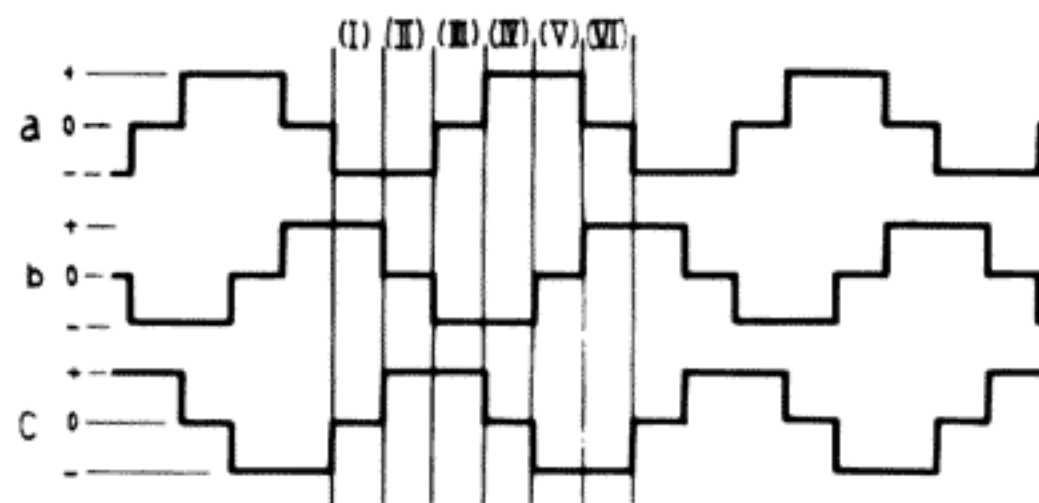

Fig. 10
2. These signals are step waves as shown in Fig. 10, with relative phase differences of 120° between them.